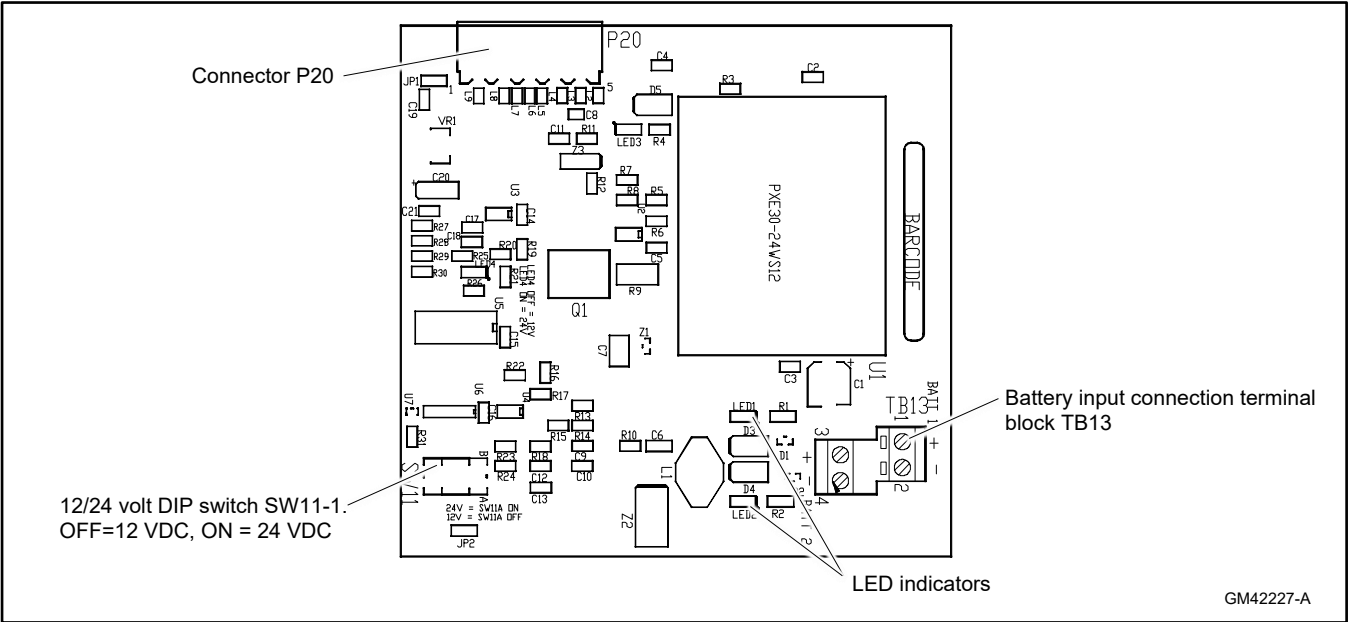

Figure 61 External Battery Supply Module
The external battery supply module kit includes one external battery supply circuit board and the circuit board mounting components. See Figure 61.
1. Use #14-28 AWG wire to connect one or two batteries to terminal block TB13. (A second battery can be connected but is not required.) Follow the marking on the board for the positive (+) and negative (-) connections. See Figure 61 and Figure 62.
If the battery connections are reversed, red LED1 or LED2 will light. See Figure 61.
2. Set voltage selector switch SW11-1 to 12 or 24VDC. See Figure 61 and Figure 62. Switch SW11-2 is not used.